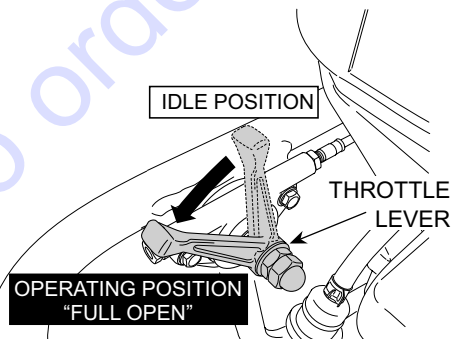

Figure 18. Throttle Lever (Full Open)
- To start the rammer tamping action, move the throttle lever (Figure 18) quickly from **IDLE** (close) to the **FULL OPEN** position. **DO NOT** move the throttle lever slowly as this may cause damage to the clutch or spring.